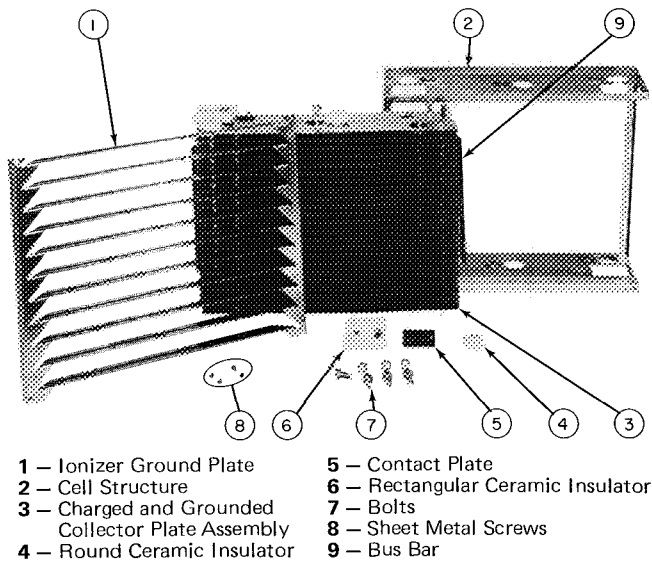

Fig. 15 — Disassembled Cell, Model 31MP
Cell - Plate-type and media-type, Fig. 14. The cell contains the ionizer wires, the ionizer ground plate, Fig. 15, item 1, and the charged and grounded collector plate assembly, item 3, of the plate-type cell.
DISASSEMBLING THE PLATE-TYPE CELL - Refer to Fig. 15.
4. Remove the cell structure which consists of a riveted assembly of 2 end panels and 2 angles. ROUND INSULATORS, Fig. 15, item 4, may be lifted from the rod ends when the cell structure is removed.
RECTANGULAR INSULATORS, Fig. 15, item 6.
3. Remove the sheet metal screw holding the insulator and contact plate, item 5, to the end of the bus bar, item 9.